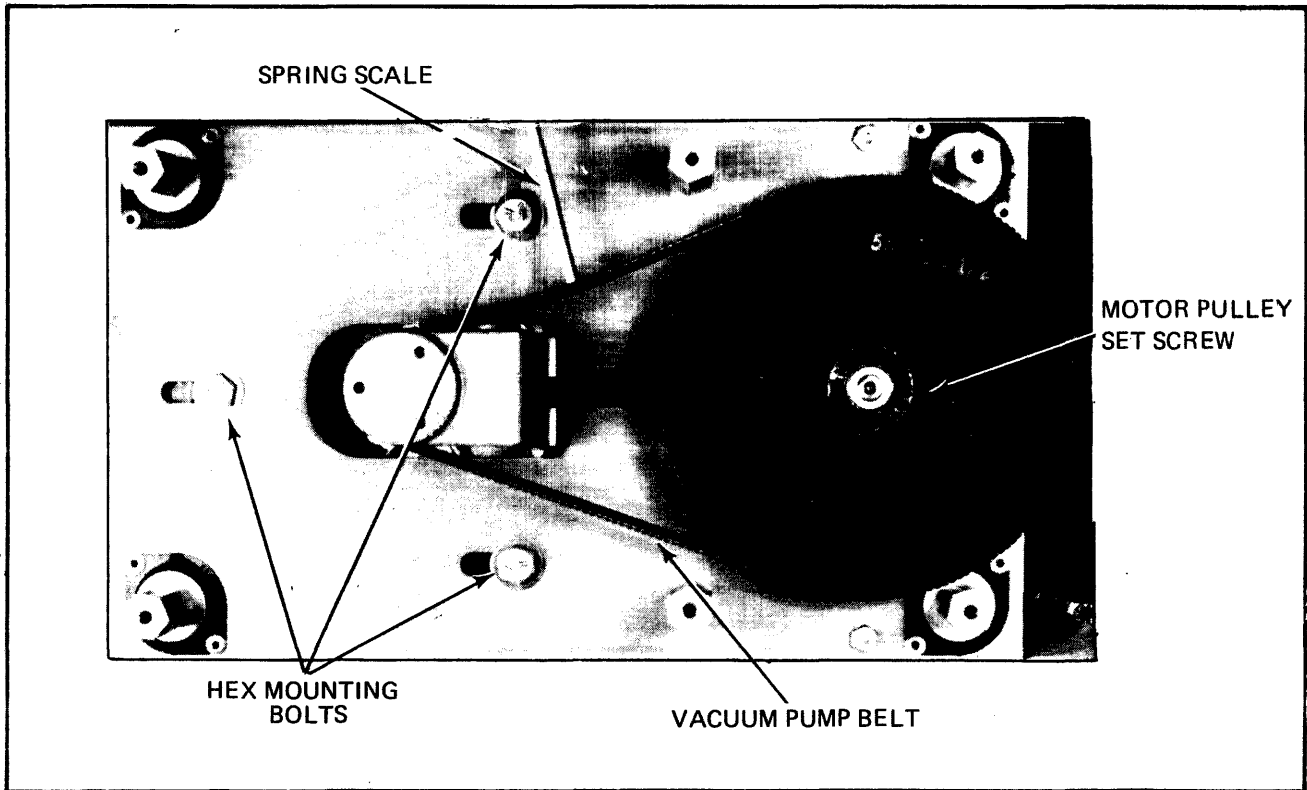

Figure 9-10. Vacuum Pump Belt Replacement
- k. Loosen three hex mounting bolts, Figure 9-10.